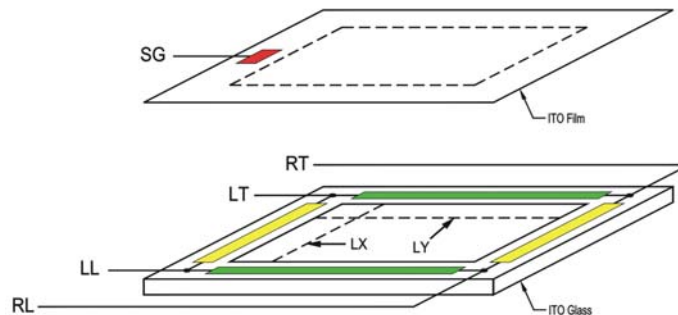
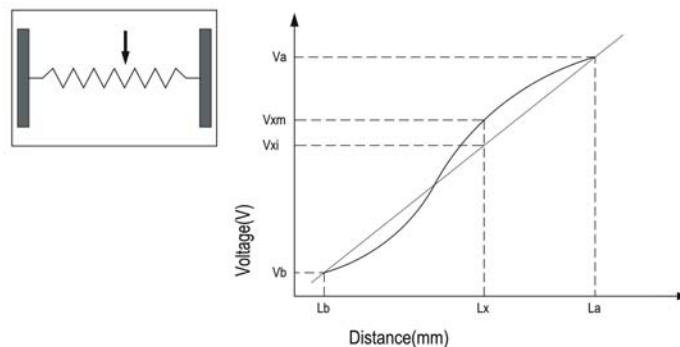

Figure 10-1
Figure 10-2
(1) Linearity Condition
Step 6: measure the voltage differences between RT and LT (or RT and RL) (Fig 10-1) (Fig 10-2)